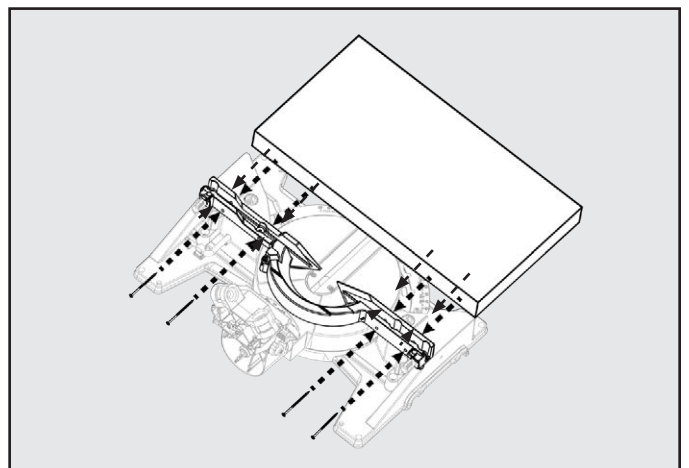

Figure 40
2. Flip the back fence support tabs **F** into position. The Tabs **F** are on both the left and right sides of the lower (fixed) fence. These will function as your workpiece backstop. See Figure 40.